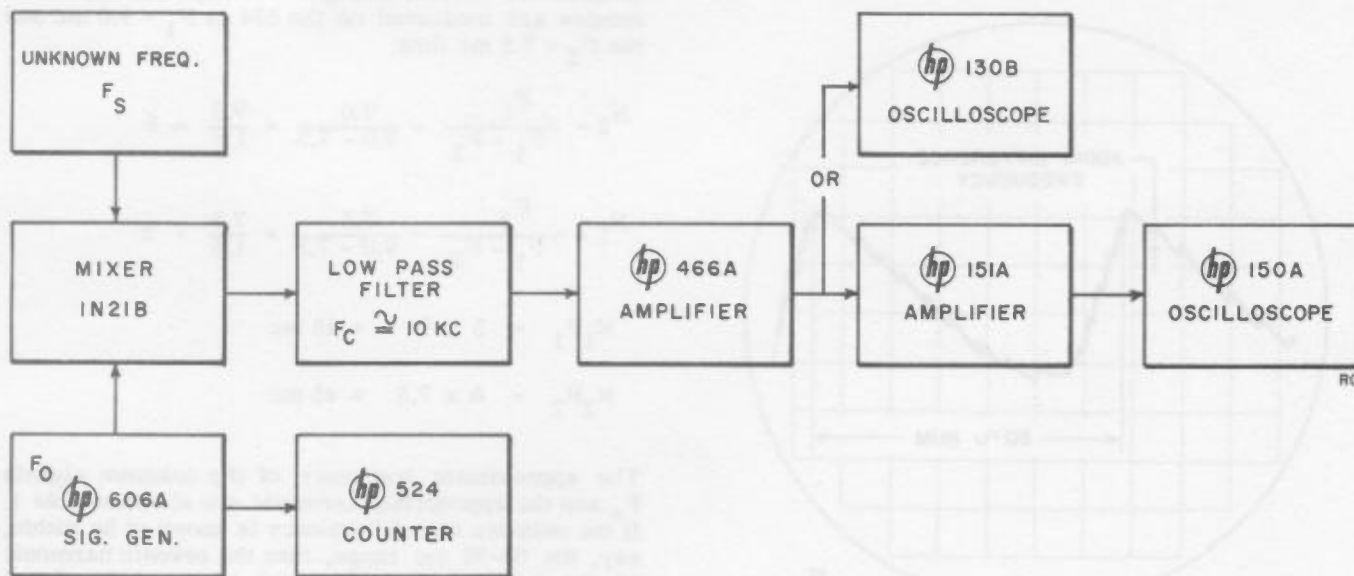

Figure 1. Block Diagram of System using Model 606A Signal Generator as a Transfer Oscillator
The system block diagram is shown in figure 1. In this system an unknown frequency is compared with the harmonic of the 606A Signal Generator using transfer oscillator techniques. Since frequencies up
- 2) The equipment setup is shown in figure 1.